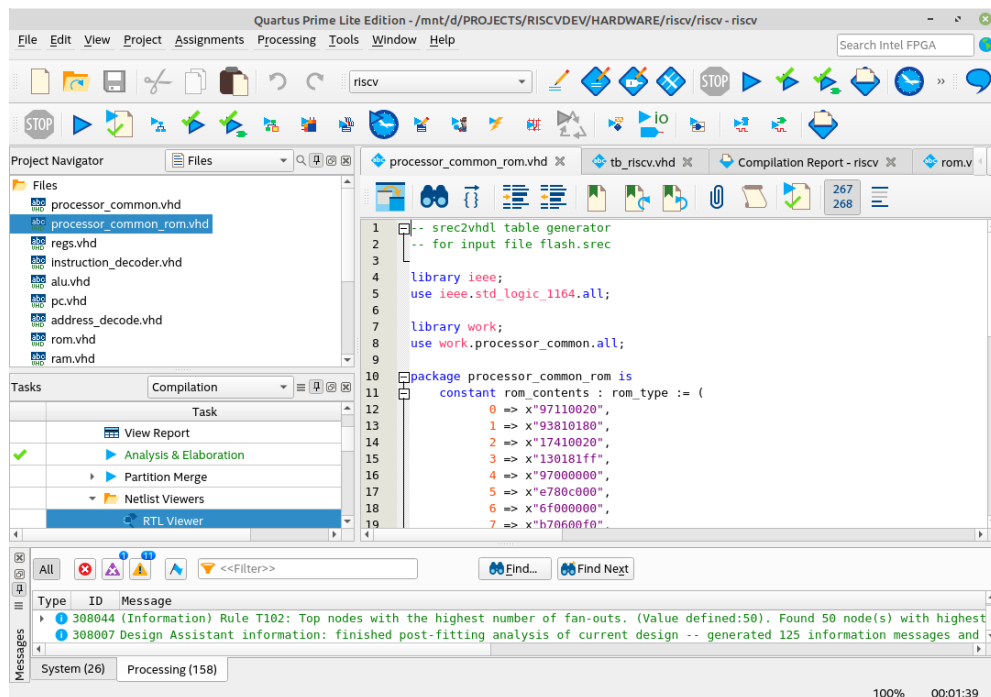

Figure 4: Image of the Quartus project (1).
- Now start the compilation of the VHDL code in Quartus Prime Lite and program the compiled file. This file has the extension `.sof`. See Figures 4 to 6.